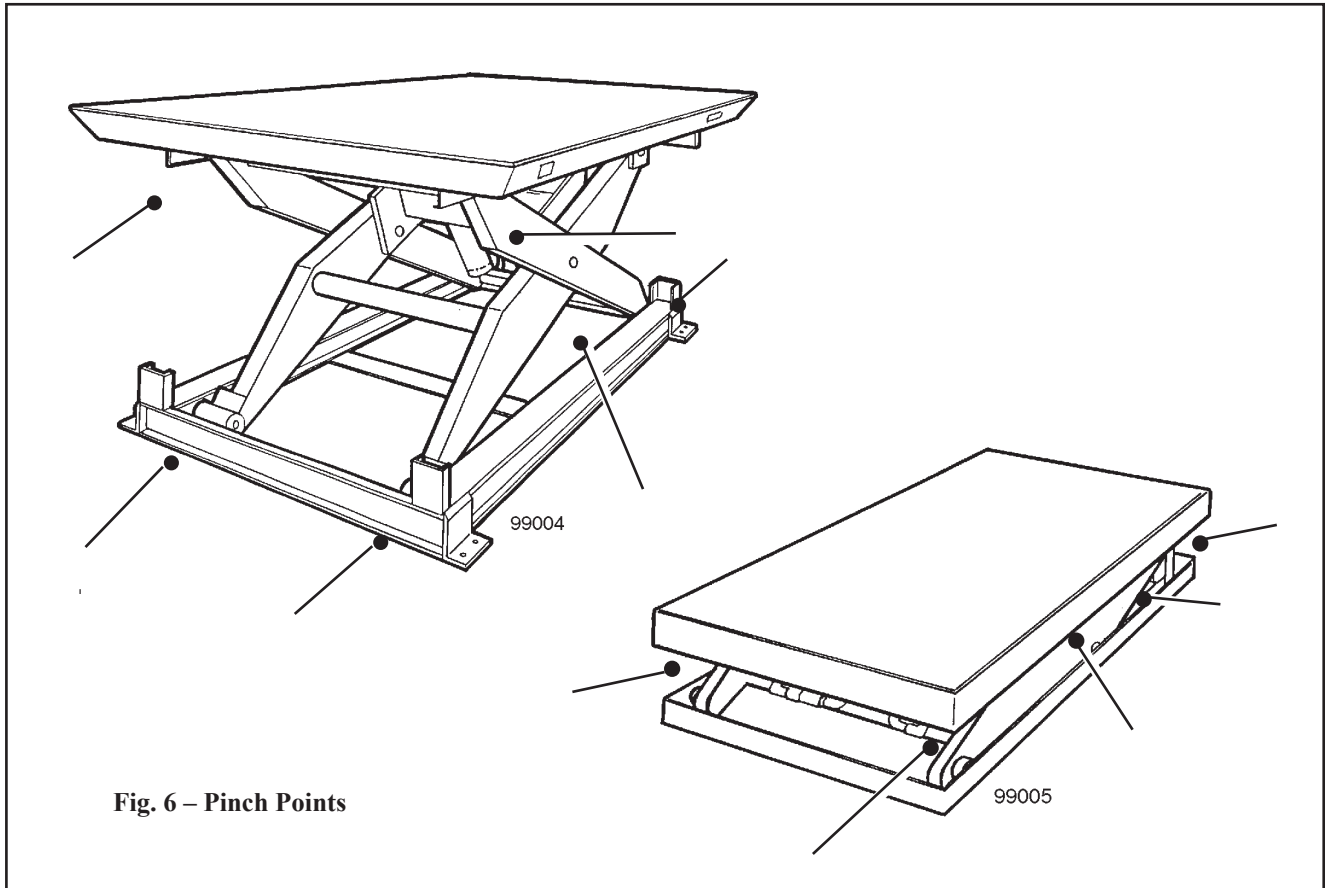

Fig. 6 – Pinch Points
As the lift table moves up and down, “pinch points” are created at the places shown in Figure 6. If you are standing too close to the lift when it is moving, your arm or leg may be caught in the moving parts, and you may be hurt. Stay away from the pinch points when the lift is moving.
As the lift table moves up and down, “pinch points” are created as shown in Figure 6. Stay away from these pinch points! Part of your body or clothing may become caught, and you may be hurt.
- **As the lift moves up and down, "pinch points" are formed as shown in Figure 6. Keep hands, feet, and loose clothing away from these pinch points. If your hand or arm or a part of your clothing is caught, you may be hurt.**